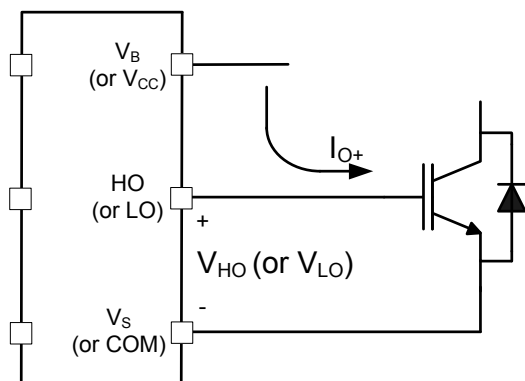

Figure 1: HVIC sourcing current
The IRS233(2,0)(D) HVICs are designed to drive up to six MOSFET or IGBT power devices. Figures 1 and 2 illustrate several parameters associated with the gate drive functionality of the HVIC. The output current of the HVIC, used to drive the gate of the power switch, is defined as I_O . The voltage that drives the gate of the external power switch is defined as V_{HO} for the high-side power switch and V_{LO} for the low-side power switch; this parameter is sometimes generically called V_{OUT} and in this case does not differentiate between the high-side or low-side output voltage.